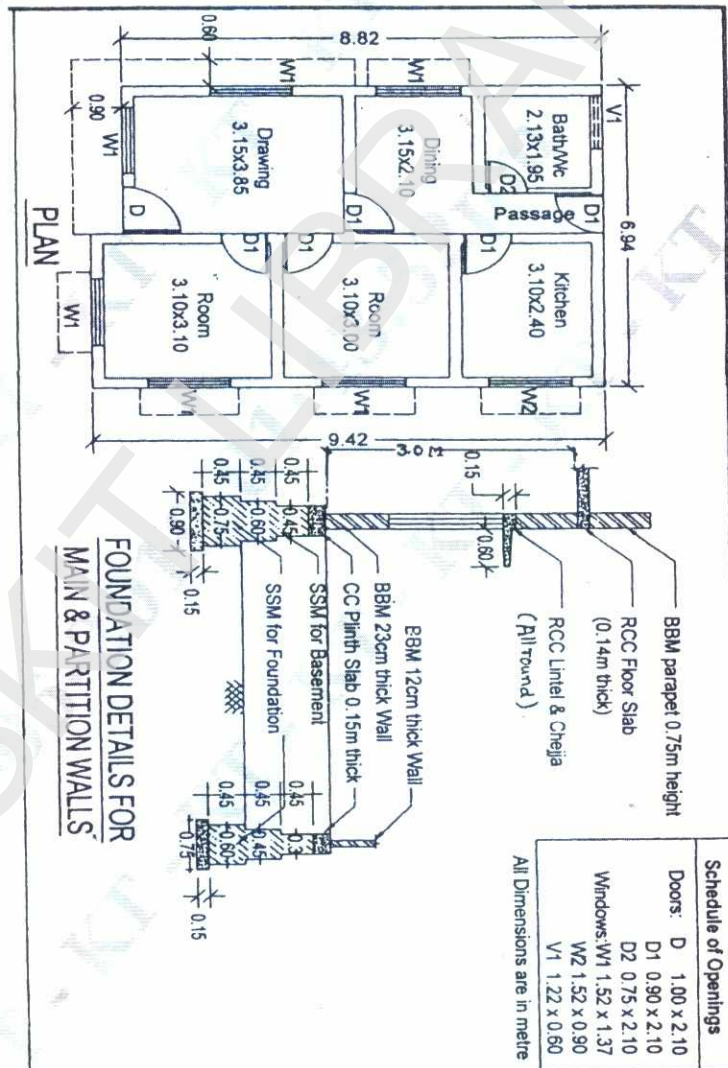

Fig.Q1
- 1 Prepare a detailed estimate for a residential building shown in Fig.Q1 for the following items of work: